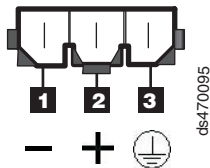

Figure 47. DC power supply connector - PIN positions
2. Connect the DC power cable to the power supply. See Figure 47 on page 72 for the DC power supply connector PIN positions.